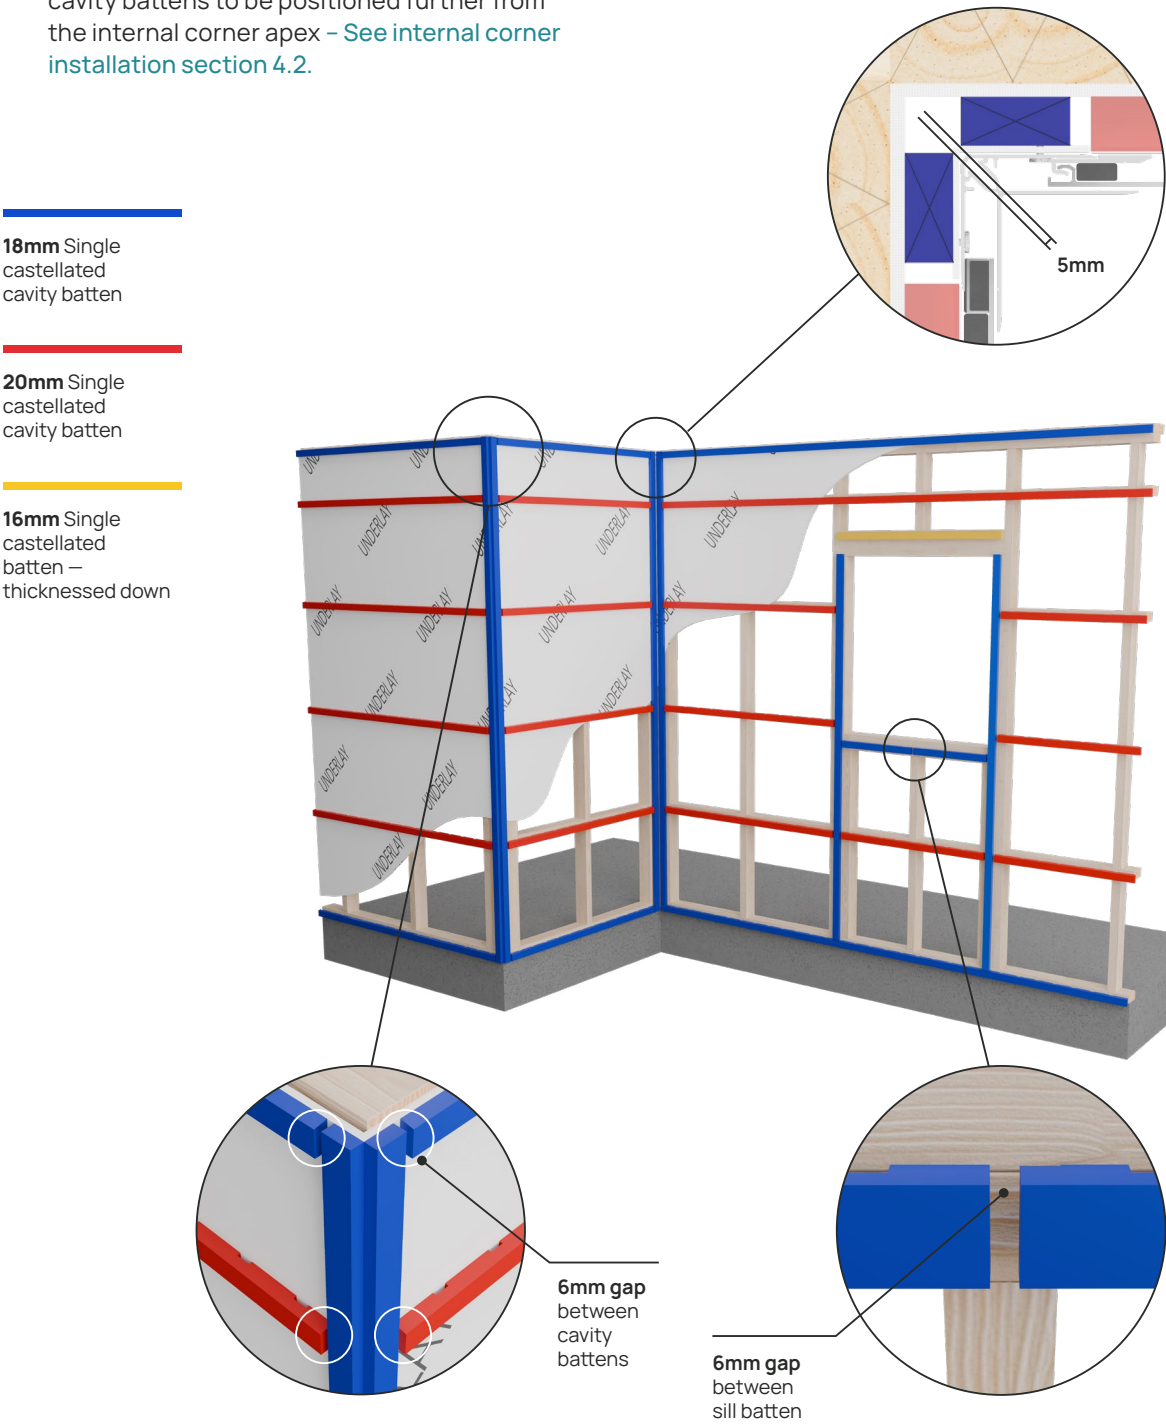

FIGURE 2. TYPICAL CAVITY BATTEN CONFIGURATION FOR VERTICAL CLADDING
- Joinery sill battens need to be installed in maximum 500mm lengths with 6mm gap in between to allow water drainage - See Figure 2.
- Internal corner vertical cavity battens should be positioned so that the internal batten corners have 5mm clearance - See Figure 2.